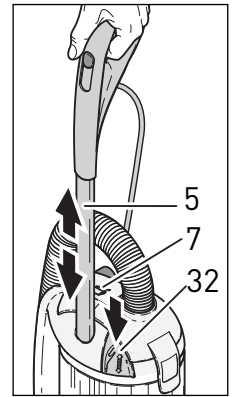

Figure 4
2. Adjust the telescopic handle tube (5) to the correct height by pulling out the handle release lever (32) and gently pulling the tube out to lengthen, or pushing it in to shorten. The tube will click into place when it reaches one of the three lengths available. Release the tab. If the tab does not fit snugly in place, the tube is set at an incorrect setting. Pull or push the tube until it locks into one of the three settings - see figure 4.
## Full Bag or Clog Indicator - Figure 4